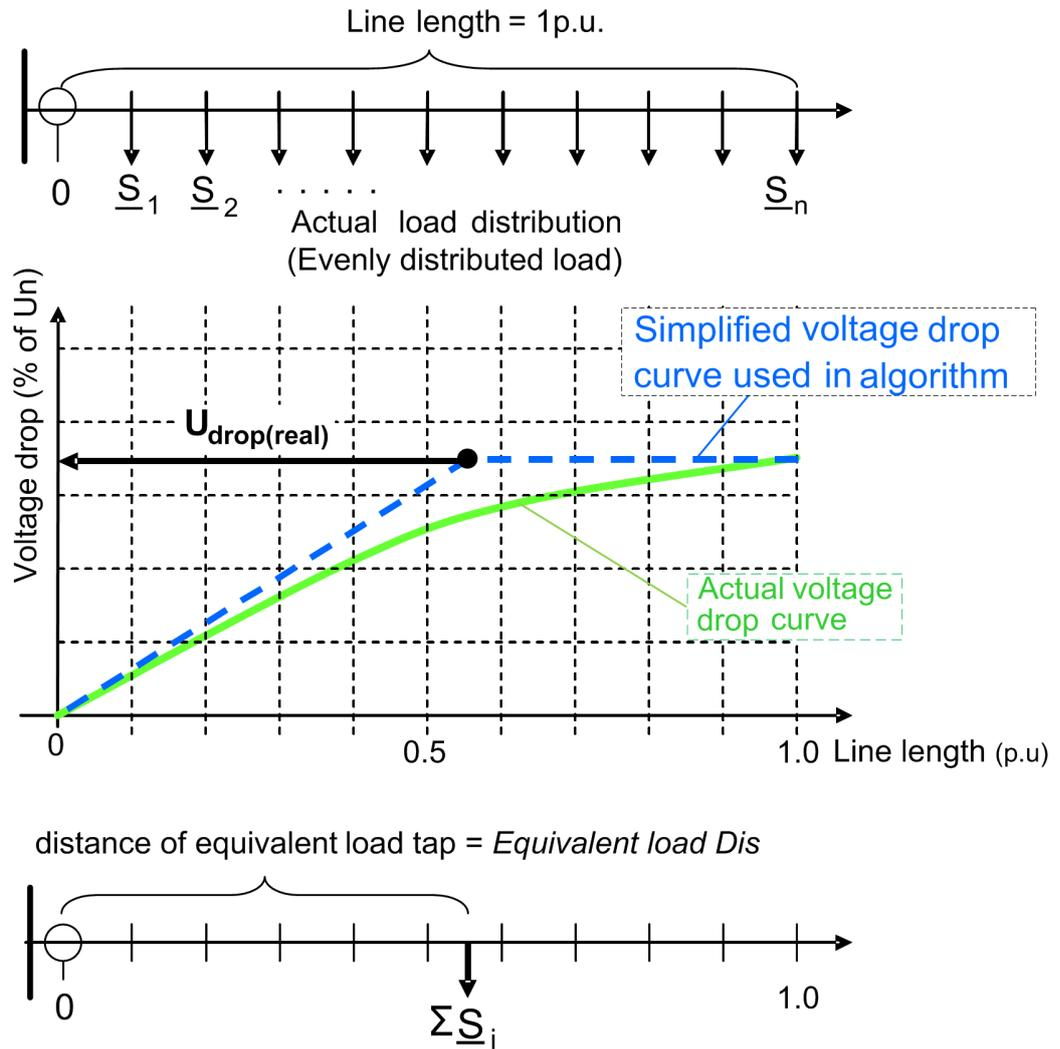

Figure 374: Description of the equivalent load distance
The “Load modelling” algorithm requires the *Equivalent load Dis* setting, that is, an equivalent load distance, as an additional parameter. The derivation and meaning of this parameter is illustrated in Figure 374, where the load is assumed to be evenly distributed along the feeder, resulting in the actual voltage drop curve as seen in the middle part of Figure 374.
- $U_{d(\text{tap},d=1)}$ The fictional voltage drop, if the entire load would be tapped at the end (d=1) of the feeder (not drawn in *Figure 374*). The calculation of this value requires data from the DMS system.